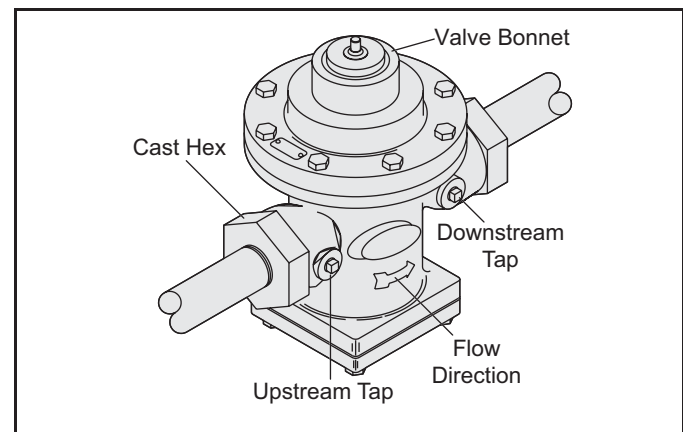

Figure 2.1
2. Remove the actuator nameplate. Figure 2.1 illustrates how the actuator will look with the cover removed.